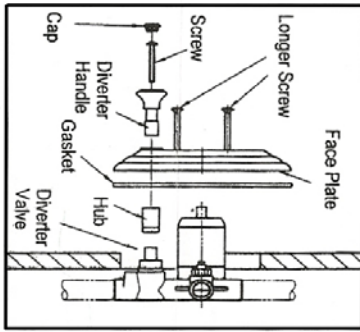

Figure 4:
Unsrew the screws on the plastic plate and remove the plastic plate. Mount gasket onto the back of face plate. Install the diverter handle into the diverter hole of the face plate. Secure the diverter handle by threading the nut onto the face plate as illustration. Position the face plate on the valve body and thread the longer screws provided and tighten. Please see **Figure 4.**
6. Use screw driver to open stop valve counter clockwise direction Figure 4:
8. Assemble the cap on the valve body by hand Figure 4: